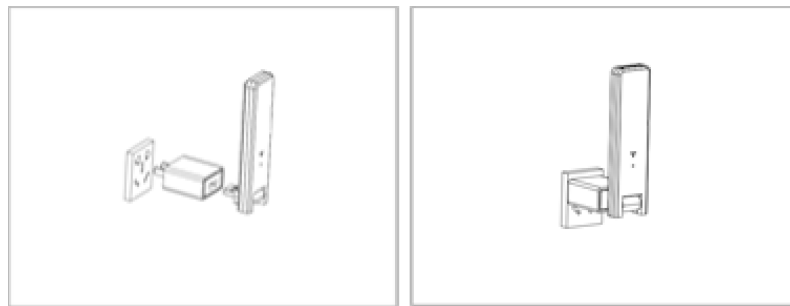

Figure 1
(4) DTU Installation
a. Connect the DTU to the adapter and plug it into the wall socket. (Figure 1)